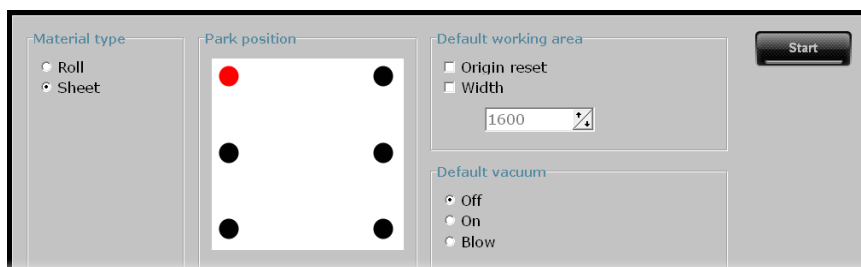

FIG 1-9
6. Insert a media core holder in each end of the media roll. Loosen the core holders with the black knob on the side. Figure 1-9 shows a loosened (1) core holder and an expanded (2) core holder.